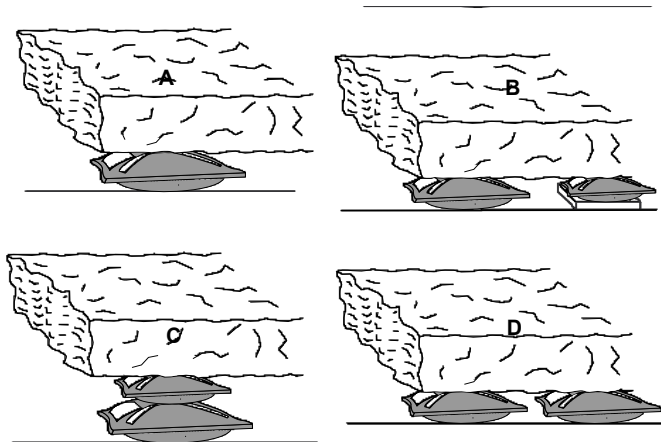

Figure 2-13. Lift bag Stacking and Tandem Combinations
f. Lifting capacity does not increase by stacking two lift bags one on top of the other; only lifting height increases. Lifting capacity is controlled by the smaller bag capacity. Use lift bags, side-by-side, to additively increase capacity by inflating the lift bags simultaneously. (Figure 2-13)